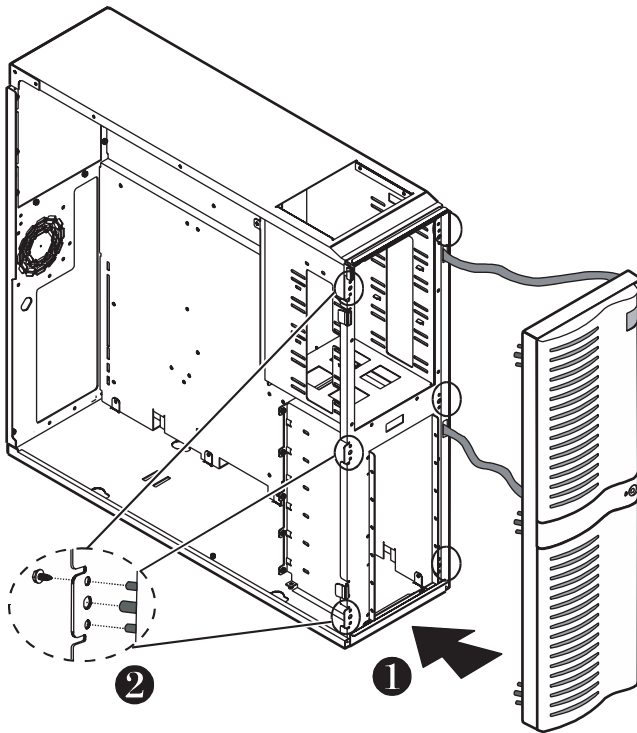

Figure 4: Reinstalling the Bezel
1. Position the bezel to the front of the chassis so that the bezel pegs are aligned with the mounting holes on the front of the chassis. See Figure 4.